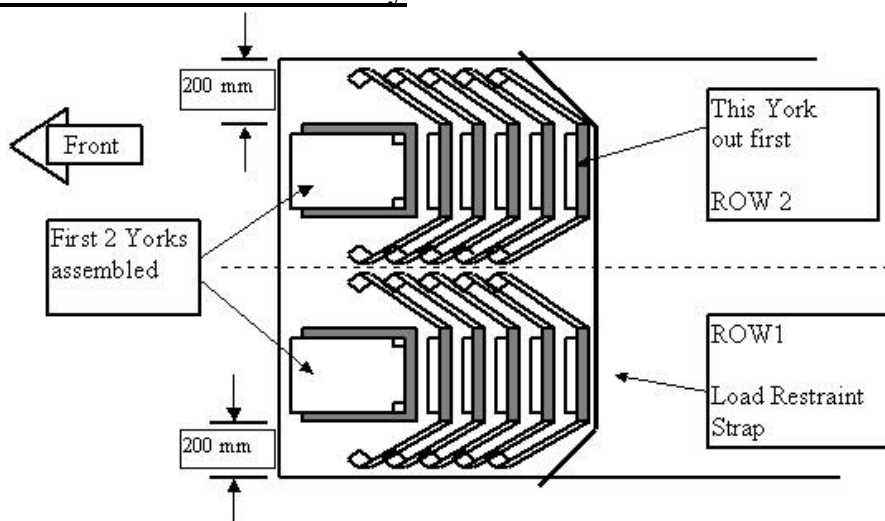

Figure 1 - Loading Pattern for Vehicles 550cf to 740cf
Table 1 shows expected capacities for vehicle types using the loading pattern as per fig 1 & 2, and the number of vehicle load restraint straps which must be used to secure the load. The notes below correspond to each vehicle type and specifies the number of Yorks to be restrained by each strap.
1. Load pattern Figure 1 has two rows of nested Yorks loaded in specified sequence.